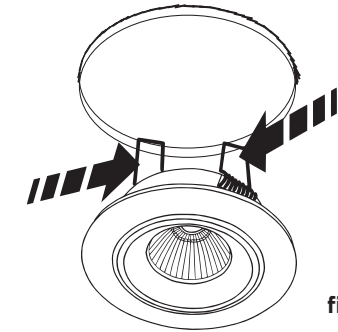

fig. 4
3. Press the springs together and place the downlight in the sawn out hole (fig.4).